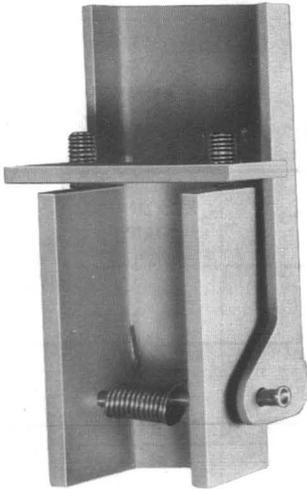

Fig. 3—KS-20224 Dome Stop
2.09 The KS-20224 dome stop (Fig. 3), a spring-loaded device, is designed to mount along the